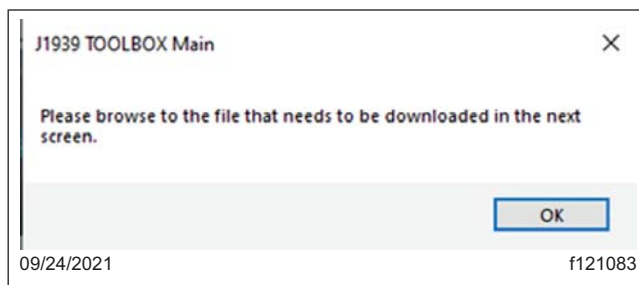

Fig. 13, Selecting OK to Proceed to Browsing
15. A window will now appear asking the user to select the configuration file. Select 'OK' to proceed. See Fig. 13.